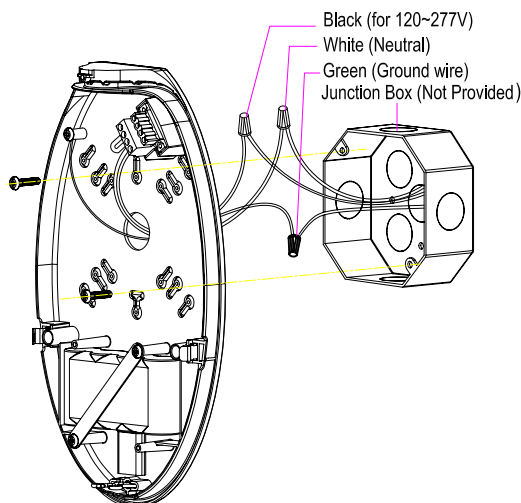

Figure 3 Wall Mount -Surface Wiring (Top Power Feed Only)
- Figure 3: Installation using conduit